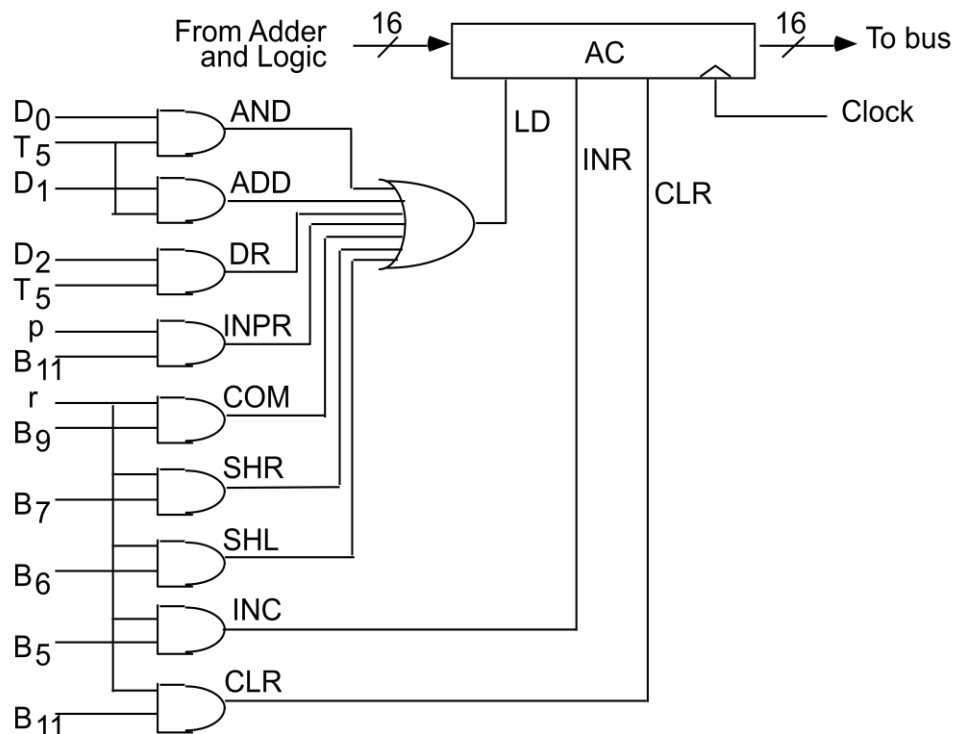

Figure 2.17: Gate structure for controlling the LD, INR, and CLR of AC
- The gate structure that controls the LD, INR, and CLR inputs of AC is shown in figure 2.17.